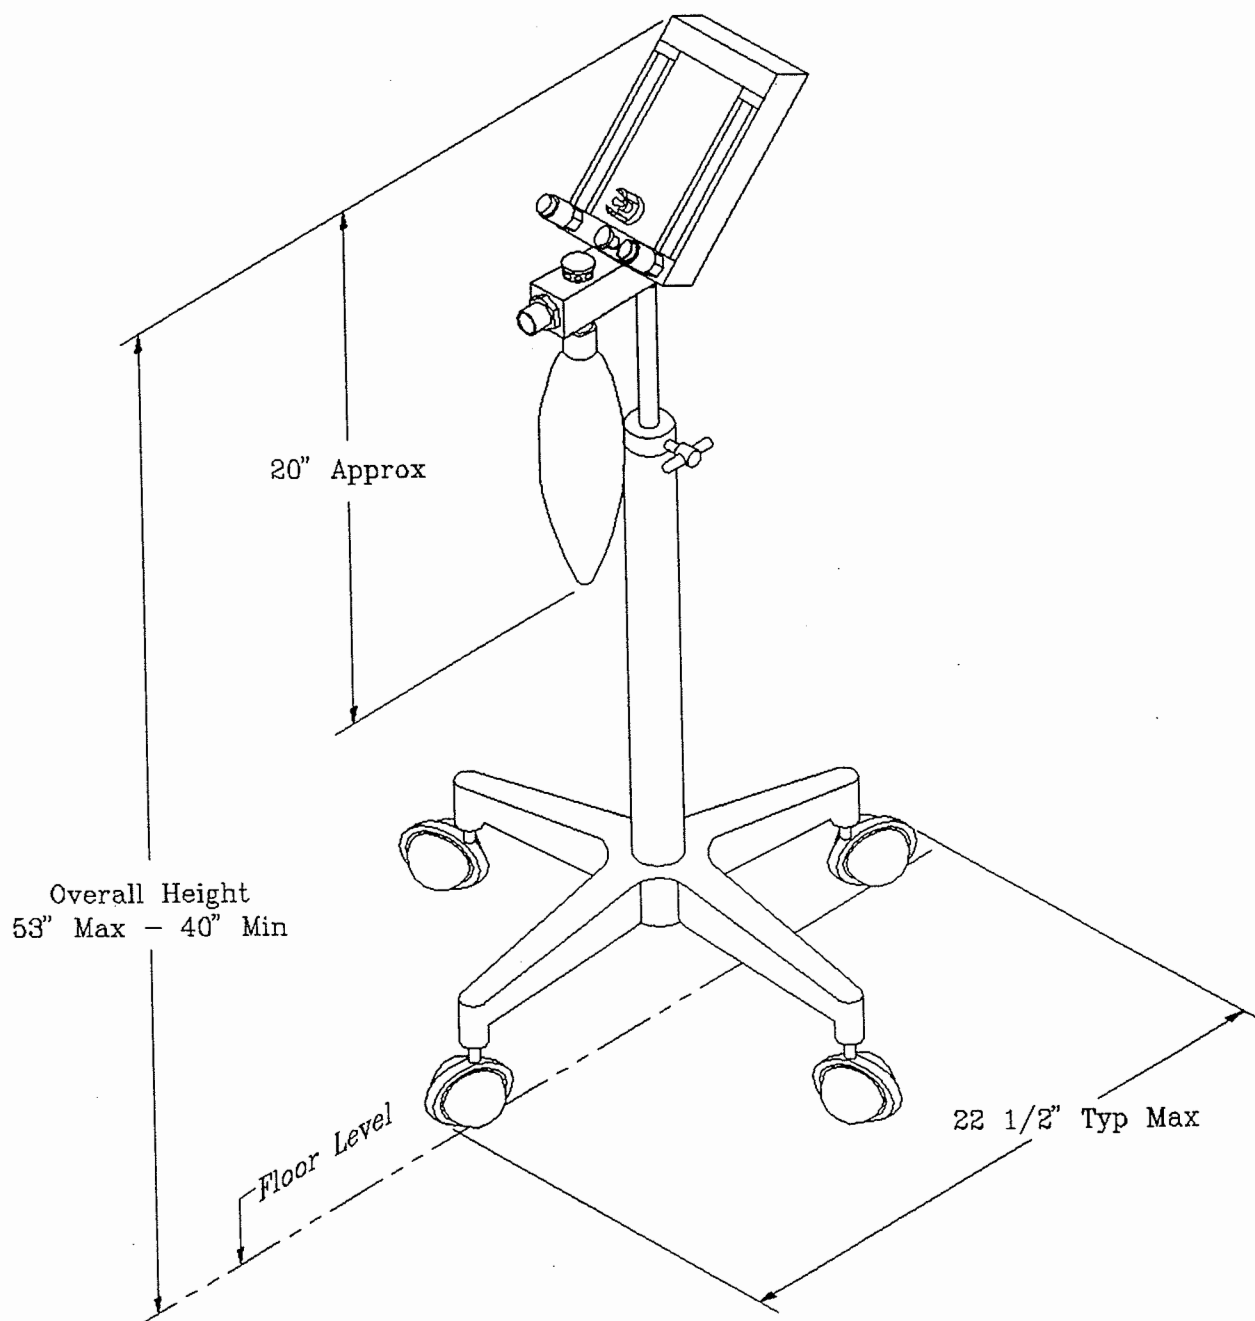

Figure 27
B) RA Portable Stand Mounted Unit (see fig 27)